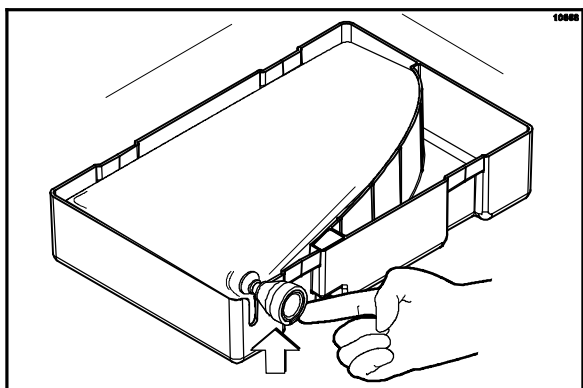

Figure 19
4. Take the concentrate bag out of the packaging box. (See Figure 19.)